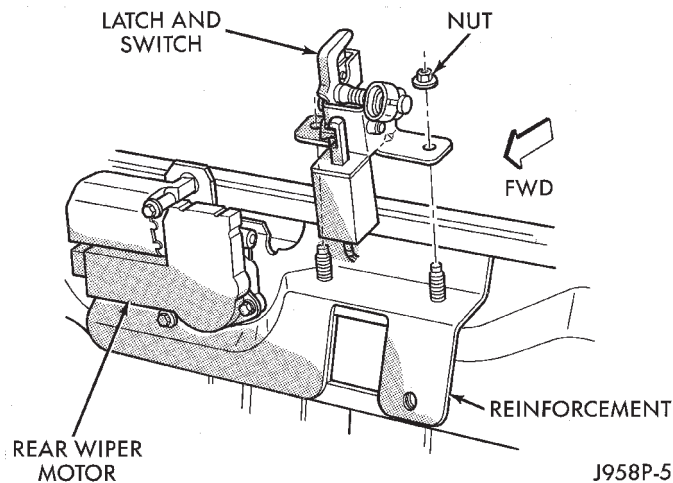

Fig. 11 Liftglass Ajar Switch Remove/Install
(4) Remove the two nuts securing the liftglass latch to the liftgate inner panel (Fig. 11).